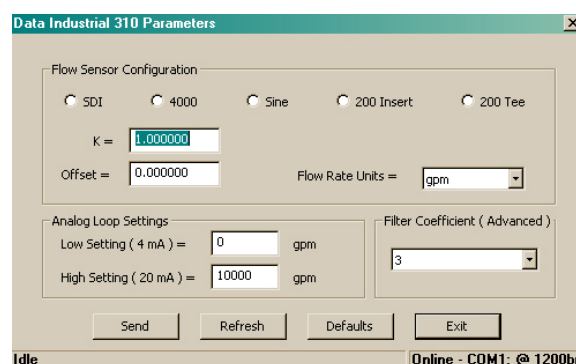

Figure 14: Parameters screen
7. Select the "Comm" port and then click **OK**. If the Comm port and Device type have been properly selected, the dashes "---" on the screen will be replaced with values. See Figure 14.
Select the new port created by the adapter. The screen should show the dashes "---" replaced with values, which confirms communications are properly established as in Figure 14.